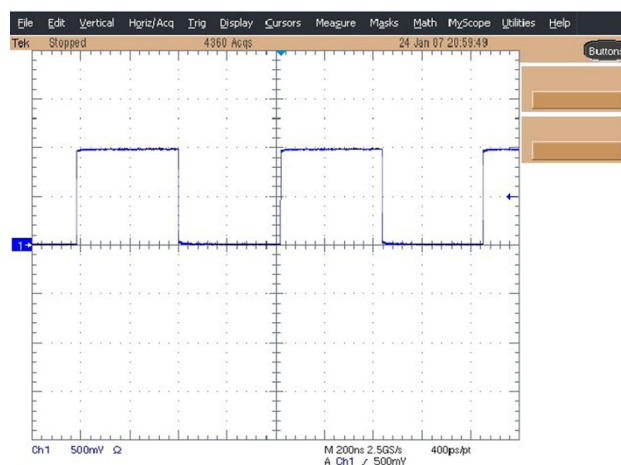

Figure 6: Output waveform from the Digital Data Out connector
9. Check that the square wave is properly displayed on the oscilloscope screen. (See Figure 6.)